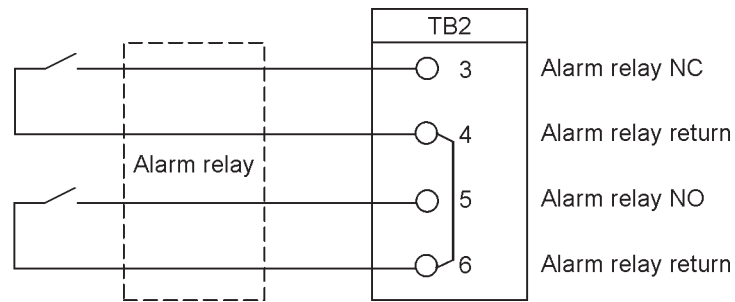
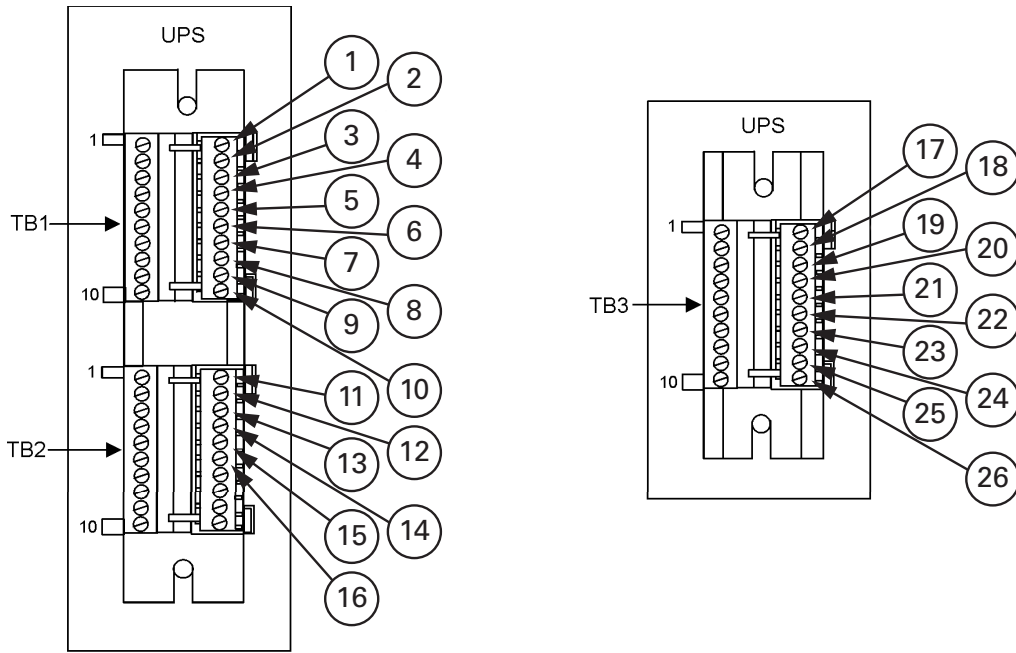
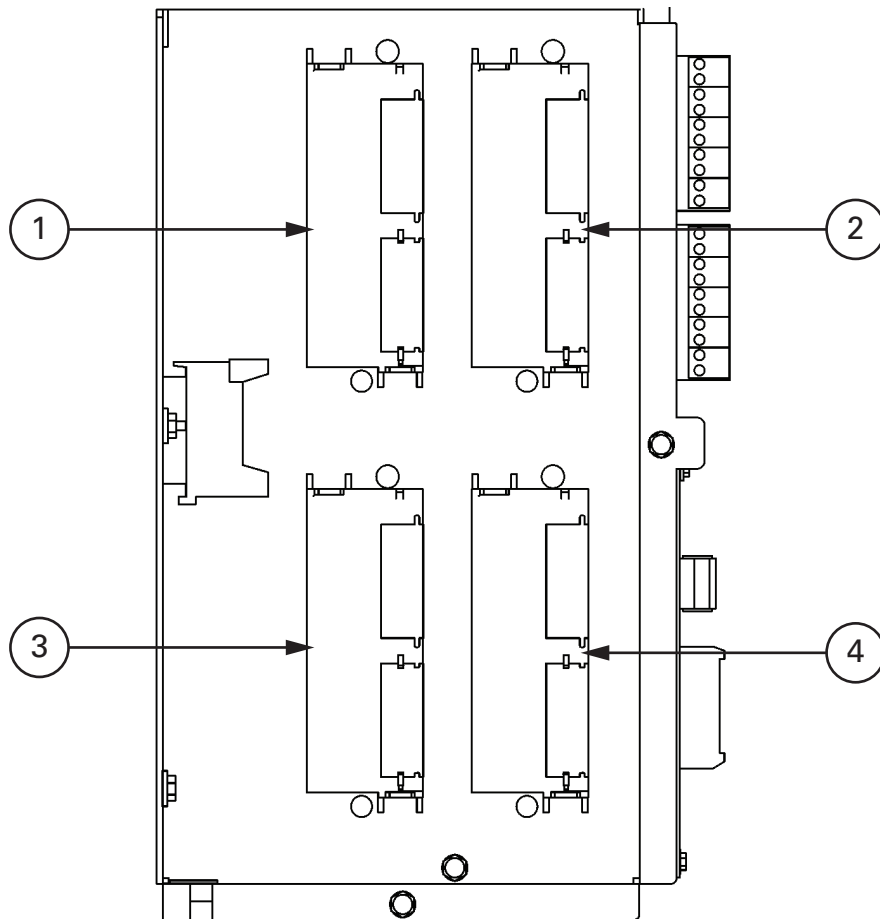

Figure 4-7. Typical alarm relay connection
Figure 4-9. Terminal blocks TB1, TB2, and TB3 connector assignments
Figure 4-11. X-Slot communication bays
10. To locate the appropriate terminals and review the wiring and termination requirements, see Section 3.2.3 on page 31, Table 4-1 on page 52, and Figure 4-7 through Figure 4-9.
For TB1, TB2 and TB3 connector assignments, see Figure 4-9 and for detail AA, see Figure . The X-Slot communication bays are illustrated in Figure 4-11.
5. Route and install the LAN, telephone, and other cables to the appropriate X-Slot cards. See Figure 4-8 on page 48 and Figure 4-11 for X-Slot location.
8. To gain access to terminal blocks TB1 and TB2 and the interface entry plates, loosen the screws securing the protective cover panel and remove the panel. This panel is to the right of the X-Slot communication bays (see Figure 4-11 on page 54).
11. To locate the appropriate terminals and review the wiring and termination requirements, see Table 4-1 on page 52, and Figure 4-9 through Figure 4-11.
6. Install the HotSync CAN Bridge Card into an open X-Slot communication bay on the front of the UPS. See Figure 4-9 on page 50 and Figure 4-11 on page 54 for X-Slot communication bay locations.
3. Terminal block TB3 is accessible on the left side of the X-Slot communication bay (see Figure 4-9 on page 44). To gain access to terminal block TB1, TB2, and the left interface entry conduit landing plates, loosen the screws securing the top protective cover panel and remove the panel. This panel is to the right of the X-Slot communication bay (see Figure 4-11 on page 54). Retain the hardware for later use.